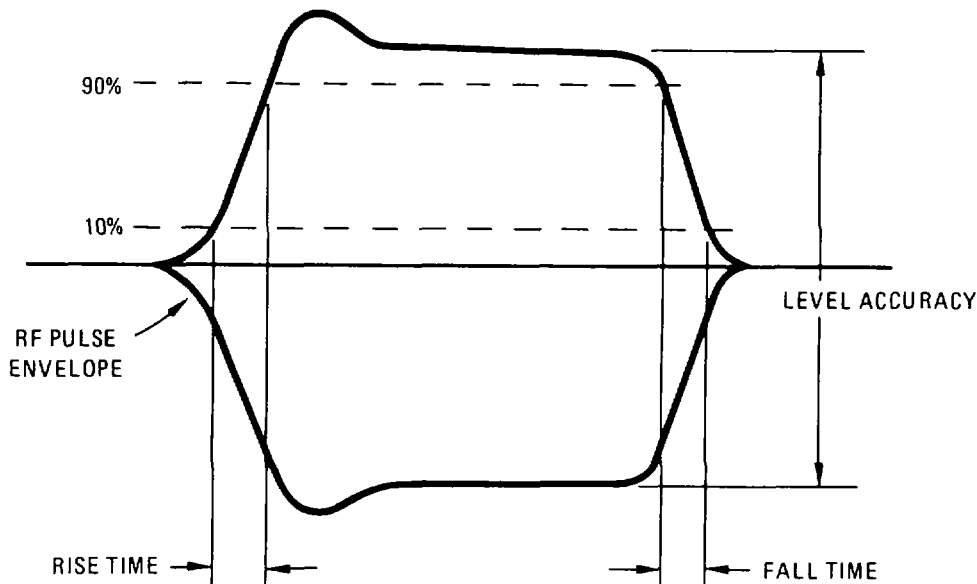

Figure 4-23. Pulse Measurements
- 3. Adjust oscilloscope to display the RF pulse envelope. Readjust the pulse width for 10 us (measured at 50% amplitude points) and measure the rise and fall times (see Figure 4-23). Both should be less than 9 Ps (measured between 10% and 90% of the full pulse amplitude).